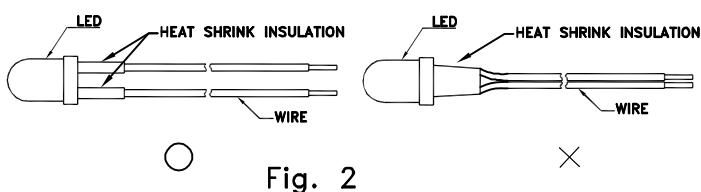

Fig. 2
- When soldering wire to the LED, use individual heat-shrink tubing to insulate the exposed leads to prevent accidental contact short-circuit. (Fig. 2)